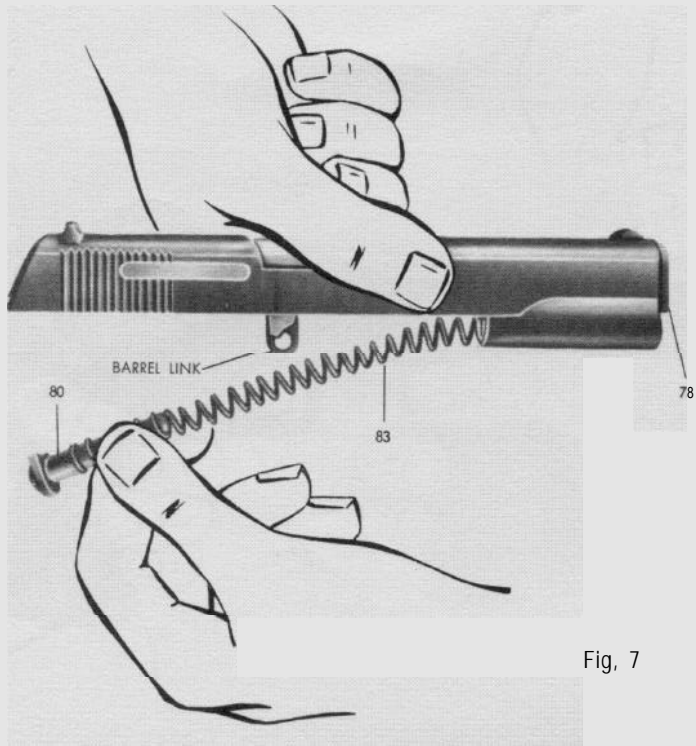

Fig. 7
5. The barrel bushing, recoil spring and its guide may now be pulled out of the slide. (See fig. 7).